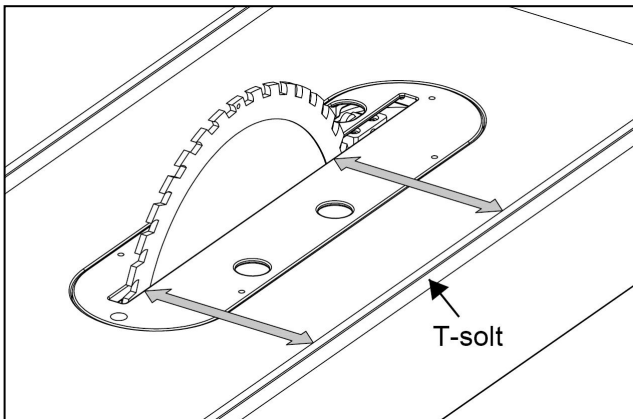

Fig.16
1. The table T-slot must be aligned parallel with the blade. Using a combination square measure the distance from the back edge of the blade to the table T-slot. Pivot blade forward 180° and re-measure the distance using the exact same point on the blade. The difference between both measurements must be less than 0.2mm. Refer to **Fig.16**.